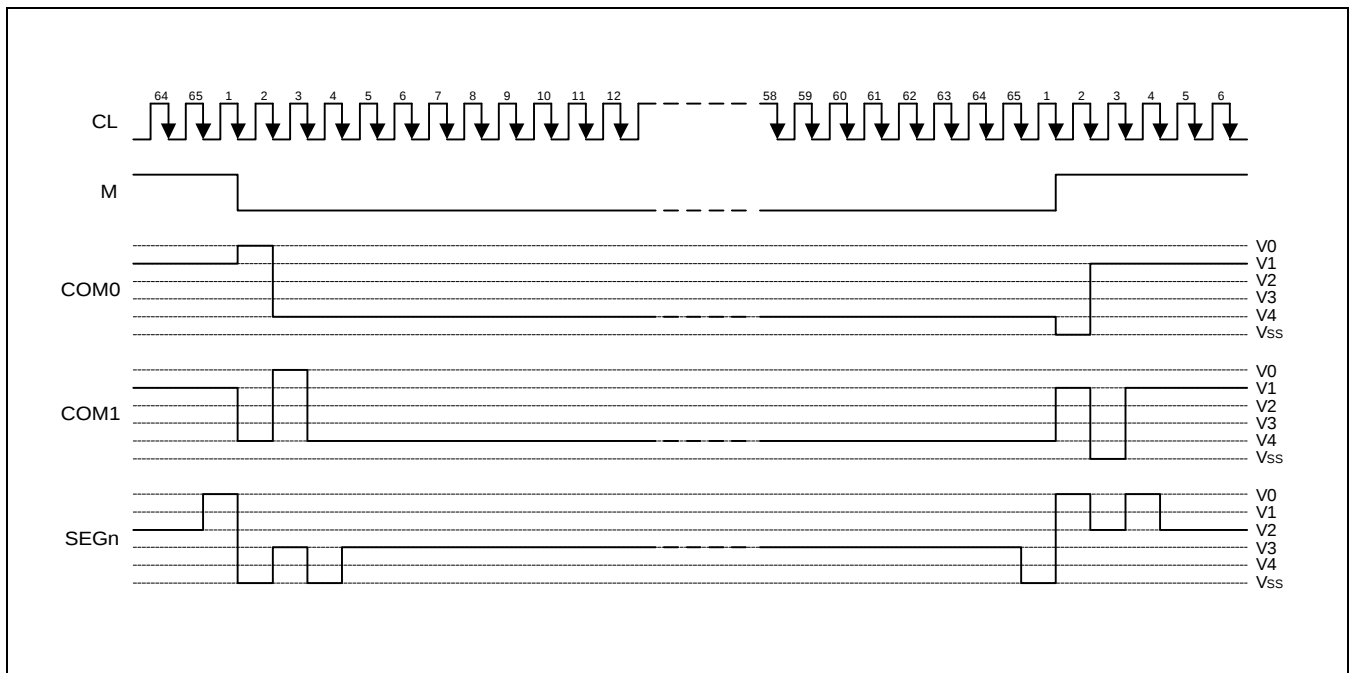

Figure 8. 2-frame AC Driving Waveform (duty ratio = 1/65)
This circuit generates some signals to be used for displaying LCD. The display clock, CL generated by oscillation clock, generates the clock for the line counter and the signal for the display data latch. The line address of on-chip RAM is generated in synchronization with the display clock (CL) and the 100-bit display data is latched by the display data latch circuit in synchronization with the display clock. The display data, which is read to the LCD driver, is completely independent of the access to the display data RAM from the microprocessor. The display clock generates an LCD AC signal (M) which enables the LCD driver to make a AC drive waveform, and also generates an internal common timing signal and start signal to the common driver. Driving 2-frame AC driver waveform and internal timing signal are shown in **Figure 8**.